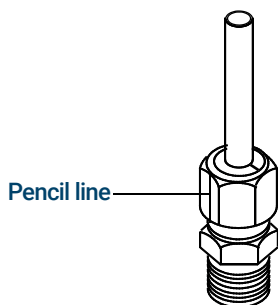

Figure 18. Mark the fitting
- 7 Mark the nut with a pencil line. See **Figure 18**.